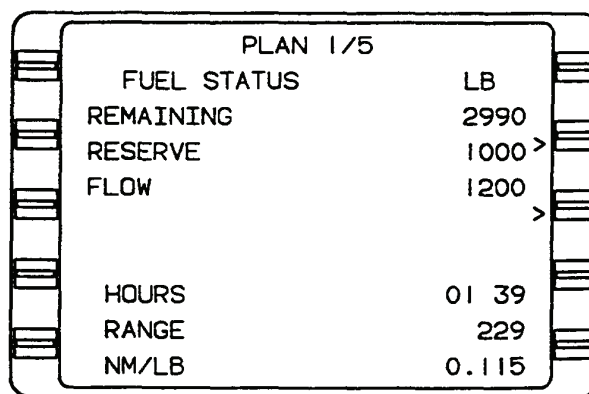

Figure 3A-38. Plan 1/5 Page, Fuel Status
(1) *Plan 1/5 Page, Fuel Status*. Refer to Figure 3A-38.